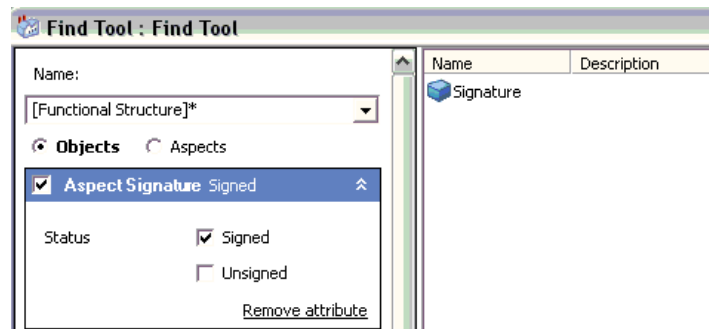

Figure 101. Search Result
- When your selections are made click the **Search** button to begin the search. The result is displayed in the right pane, see Figure 101.